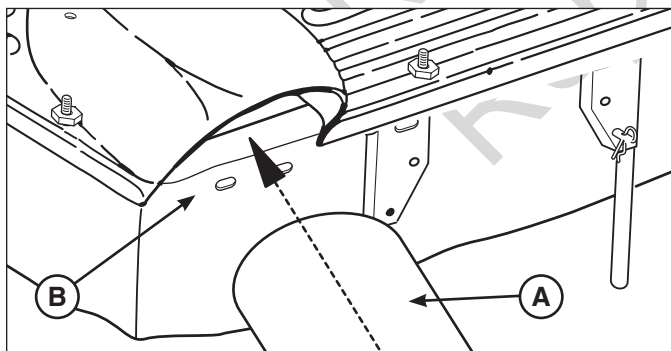

Figure 13
1. Insert the catcher tube (A, Figure 13) into the opening of the grass catcher cover (B).